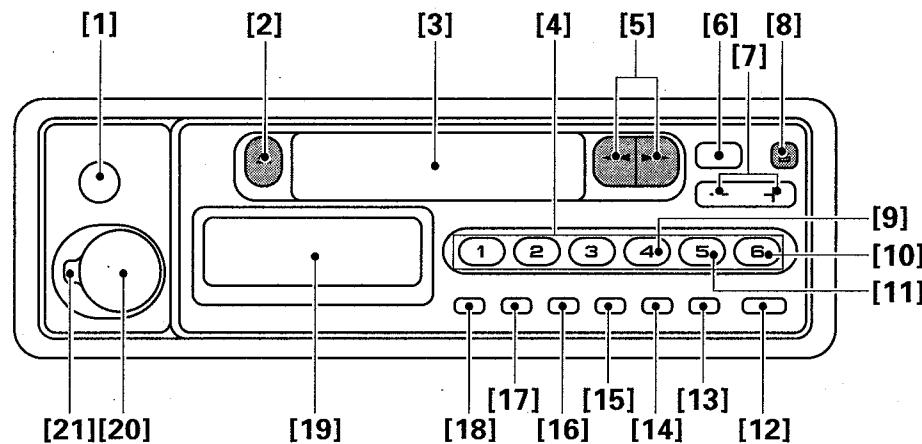
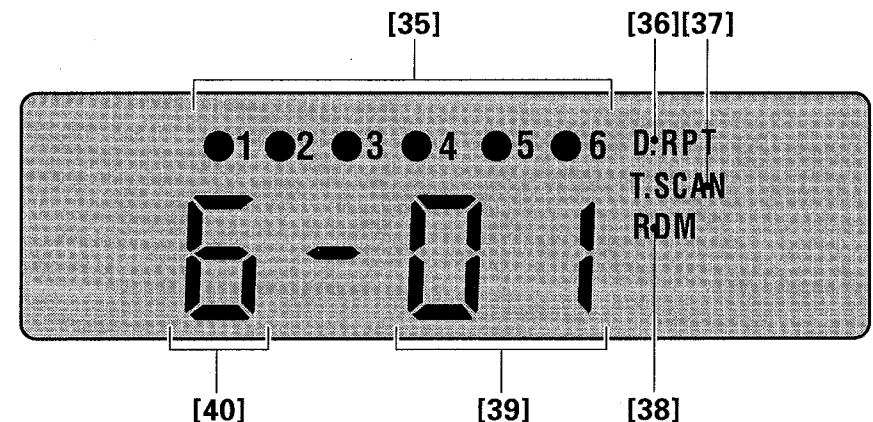

Fig. 1. Abb. 1.
Fig. 4. Abb. 4.
| Fig. 1 ~ Fig. 4 .....                 | 3  |
| Fig. 1 ~ Fig. 4 .....                     | 3  |
| Abb. 1 ~ Abb. 4 .....                       | 3  |
| Fig. 1 ~ Fig. 4 .....                             | 3  |
| Fig. 1 ~ Fig. 4 .....                           | 3  |
- Fig.1 shows KEH-M4500 and KEH-M4000. The GEH-M2000 does not include buttons [2], [5] and the door [3].
### Parts Identification (Fig. 1)
- Do not install the front panel while holding down buttons [2], [5] and [8] in Fig.1. Doing so may destroy the buttons and the main unit.
## Parts Identification (Fig. 1)